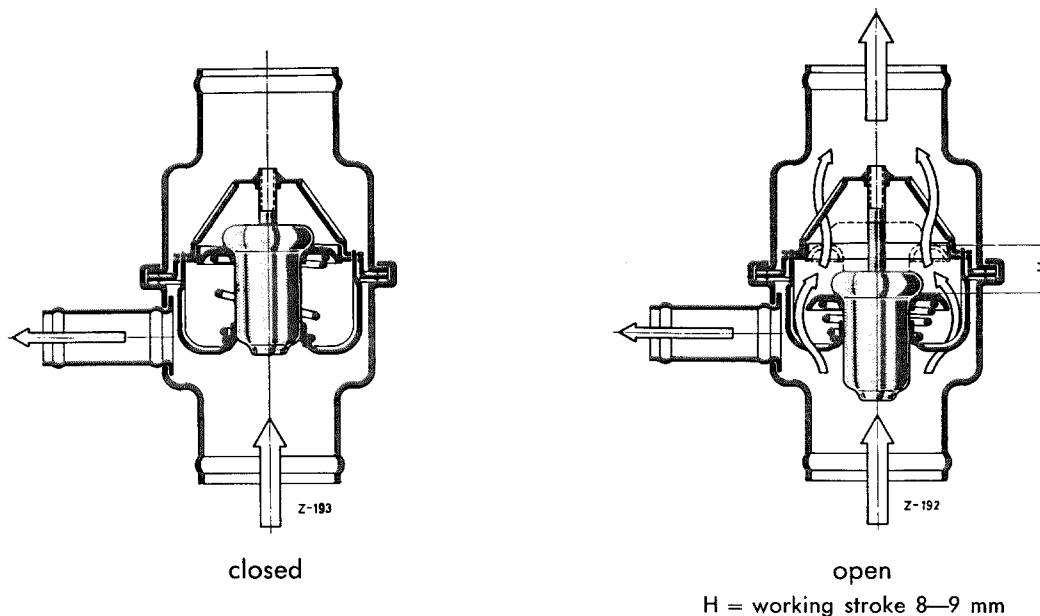

Fig. 50-6/2
The wax thermostat is independent of the pressure in the cooling water system, that is to say it is not pressure-sensitive. The thermostat element has a diaphragm (5) which is located between the wax-like mass (4) and the pin (1) soldered to the housing (Fig. 50-6/2).